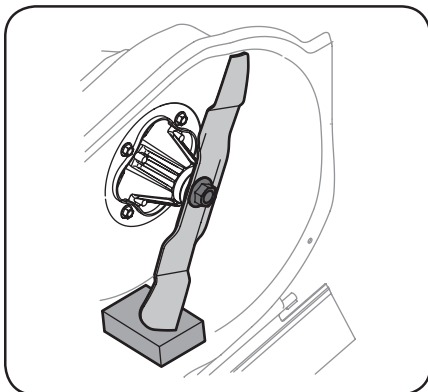

Figure 1-1
3. Place a block of wood between the center deck housing baffle and the cutting blade to prevent the blade from turning when loosening the blade's hex flange nut. See Figure 1-1.